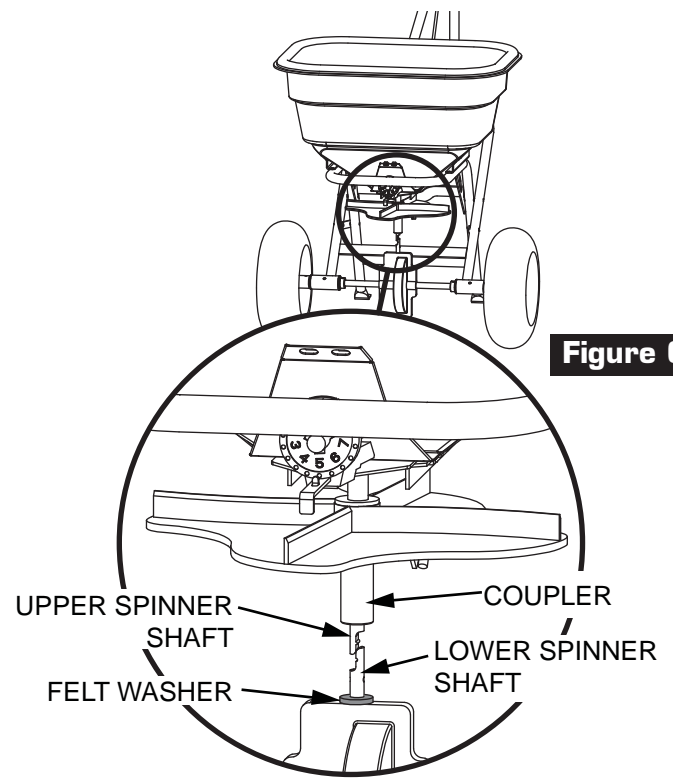

Figure 6
8. Install felt washer on shaft below the agitator wires. Slide shaft down through hopper. Install fan and coupler, Figure 6. Assemble so upper and lower spinner shafts interlock grooves. Slide coupler down over shafts.
Ensure the factory installed felt washer is on the lower spinner shaft, Figure 6.